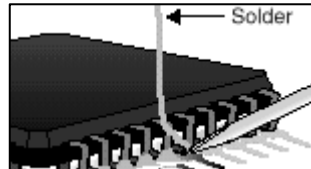

Figure 5: Solder Leads.
7. Position tip at intersection of lead and land. Apply solder to the lead/land area to form proper solder fillet. (See Figure 5.)